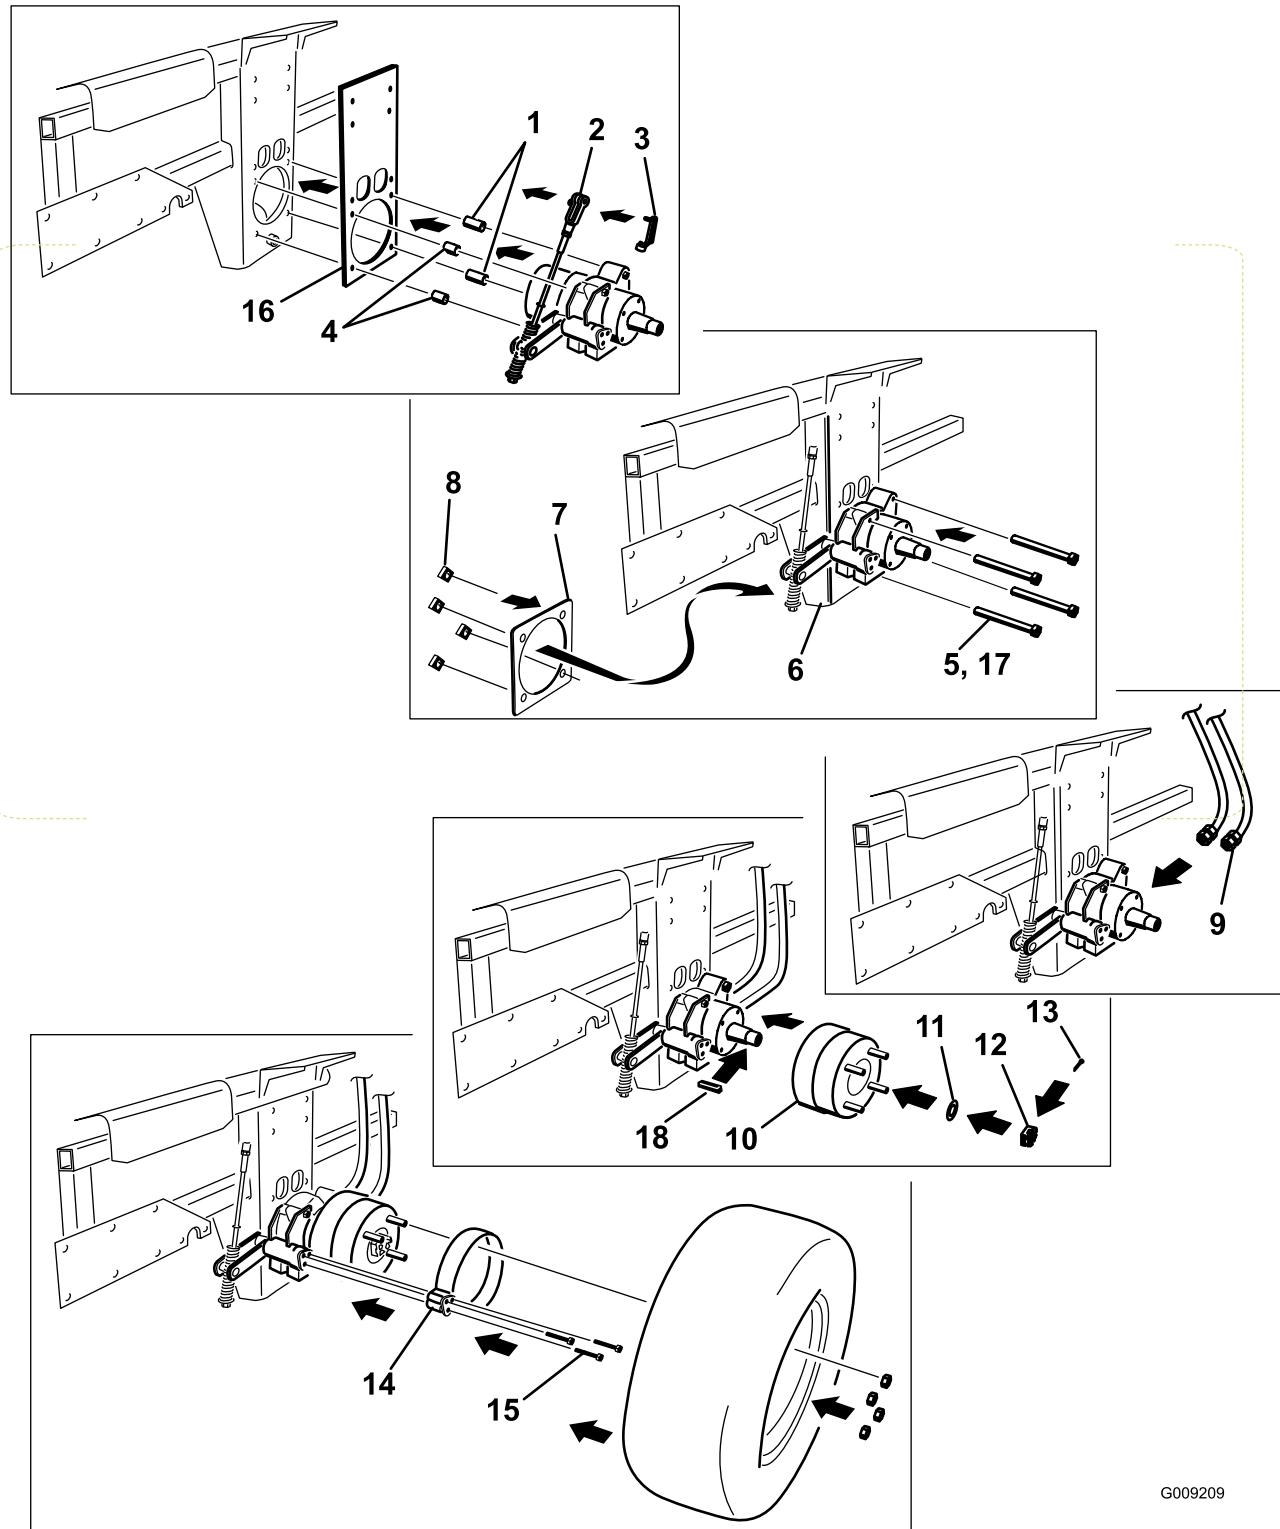

Figure 2
12. Place the small channel plate inside the frame channel and the large channel plate on the outside of the frame (Figure 2).
13. Install the small channel plate, large channel plate, wheel motor, and brake assembly to the frame with the 2 short and long spacers, 4 square nuts (1/2 inch), and 4 bolts (1/2 x 4-1/2 inches for 62 inch mowers and smaller (1/2 x 6-1/2 inches for 72 inch mowers only) (Figure 2). Ensure the spacers are installed in the correct position.
15. Connect the hydraulic lines to the wheel motor if removed earlier (Figure 2).
16. Install the wheel hub to the wheel motor with the washer and slotted nut (Figure 2).
21. Replace the cotter pin (Figure 2).